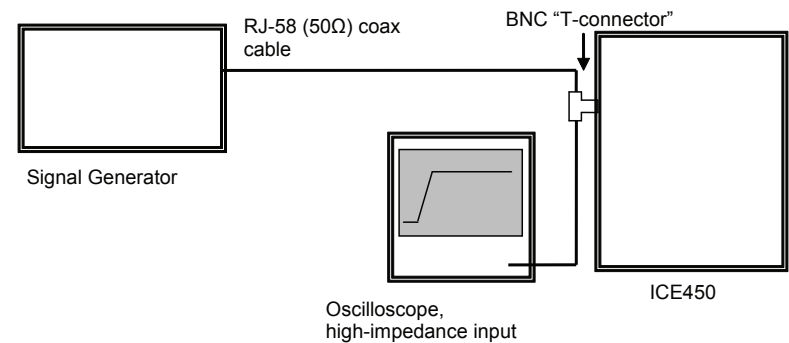

Figure 23 Preferred Method of Measuring Trigger Signal
- If it is not clear that the signal generator is driving the signal properly, measure the trigger signal using the method shown in Figure 23. Connect to the trigger signal circuit using a BNC “tee”. Verify that the oscilloscope input is in high-impedance mode (greater than 1 MΩ).